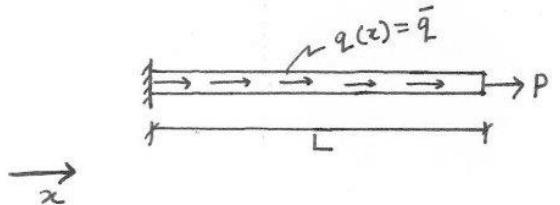

Figure 1.1
1. For the bar shown in Figure 1.1: